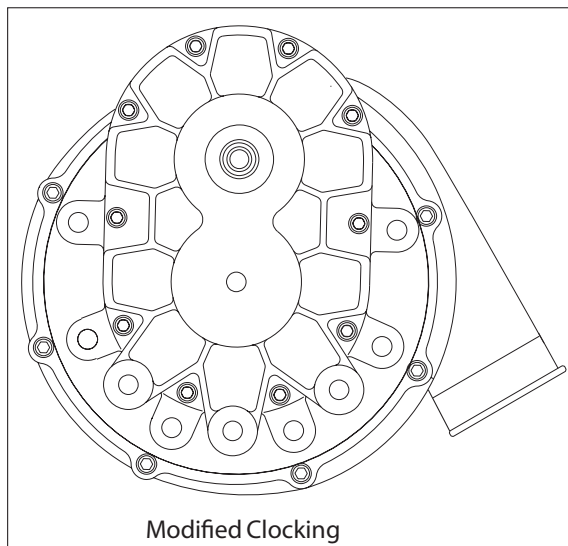

Fig. 2-a (applies to both H.O. and V-Power)
- C.** Carefully rotate the supercharger volute to the specified position as shown. (See Fig. 2-a.)
**NOTE:** If the compressor housing does not rotate freely relative to the gearcase, DO NOT FORCE IT. SERIOUS SUPERCHARGER DAMAGE MAY OCCUR. The machined mating surfaces are designed to prevent pressurized air from escaping and have minimal tolerances. If the housing will not move or is very tight, contact Vortech Engineering immediately at (805) 247-0226 and ask for our service department for further assistance.